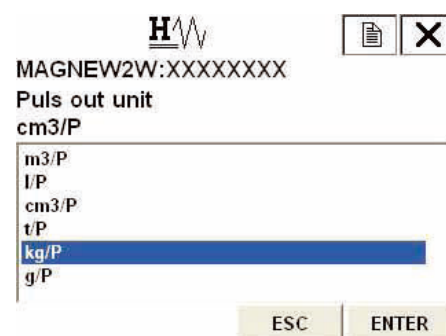

Figure 7-30
Figure 7-30 will then be displayed.
2. Once the display as shown in Figure 7-30 appears, move the arrow key up or down to select pulse scale unit. After making a selection, press F4 (ENTER). If F3 (ESC) is pressed here, the selection will be canceled and the display will return to the Pulse output menu.